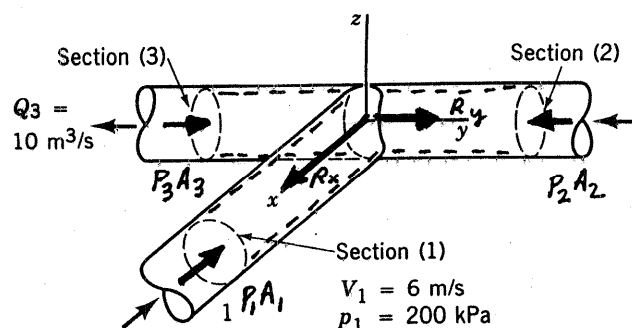

FIGURE P5.55
5.55 Assuming frictionless, incompressible, one-dimensional flow of water through the horizontal tee connection sketched in Fig. P5.55, estimate values of the x and y components of the force exerted by the tee on the water. Each pipe has an inside diameter of 1 m.